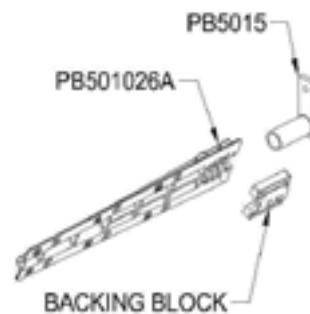

Figure 7
- A. Loosely clamp the bracket (part number PB501026A) and the backing block to the swivel (part number PB5015). Do not tighten down the bolts. Allow the bracket to rotate on the swivel during installation. See figure 7.